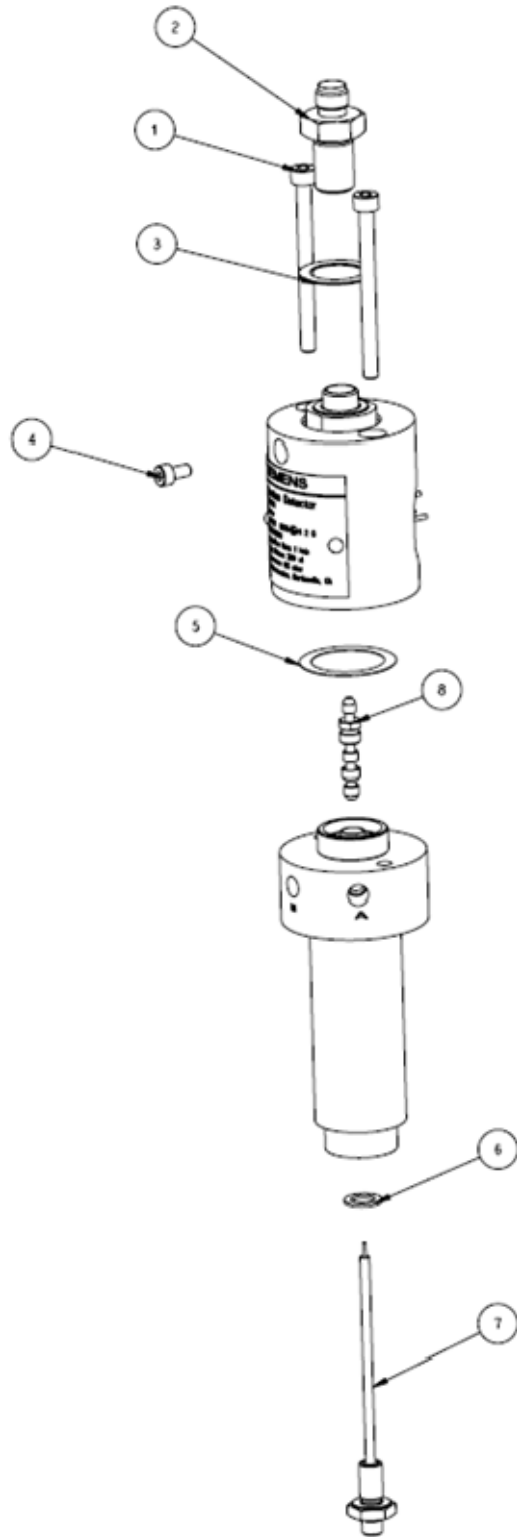

Figure 6
This document describes the procedure to clean the upper body of an FID to reduce detector noise. It will be necessary to power down the analyzer for this procedure. All figures are located at the end of the procedure. For numbered items, refer to Figure 6.
8. Remove the flame arrestor insert, Item 7 and washer, Item 6 from the FID bottom body using a 9/16" open-end wrench. Refer to Figure 6.
19. Remove the screws, Item 1 that attach the upper and lower bodies. Refer to Figure 6.
24. Set aside on a clean surface. Flush the flame arrestor, Item 7, with alcohol pump and then clean in clean acetone in an ultrasonic cleaner for 10 minutes. Refer to Figure 6.
27. Reinsert the flame arrestor, Item 7 with washer, Item 6, into the bottom body. Make sure the flat washer fits into the recessed cavity at the lower end of the FID bottom body to insure it does not leak. Refer to Figure 6.
32. When parts are cool, insert the Teflon® seal, Item 3 in the upper body. Then install the output enclosure assembly, Item 2 and the set screw, Item 4. Refer to Figure 6.